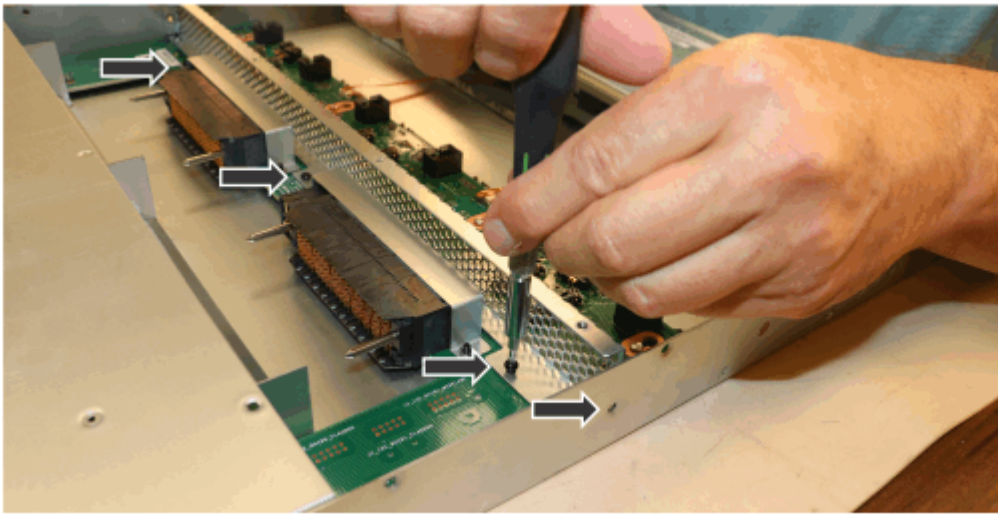

Figure 83. Chassis brace
17. Use a T10 Torx driver to remove the five screws that secure the metal chassis brace to the enclosure, as shown in Figure 83 on page 141:
21. Secure the midplane with three screws through the metal chassis brace and two screws through the sides of the enclosure, as shown in Figure 83 on page 141.